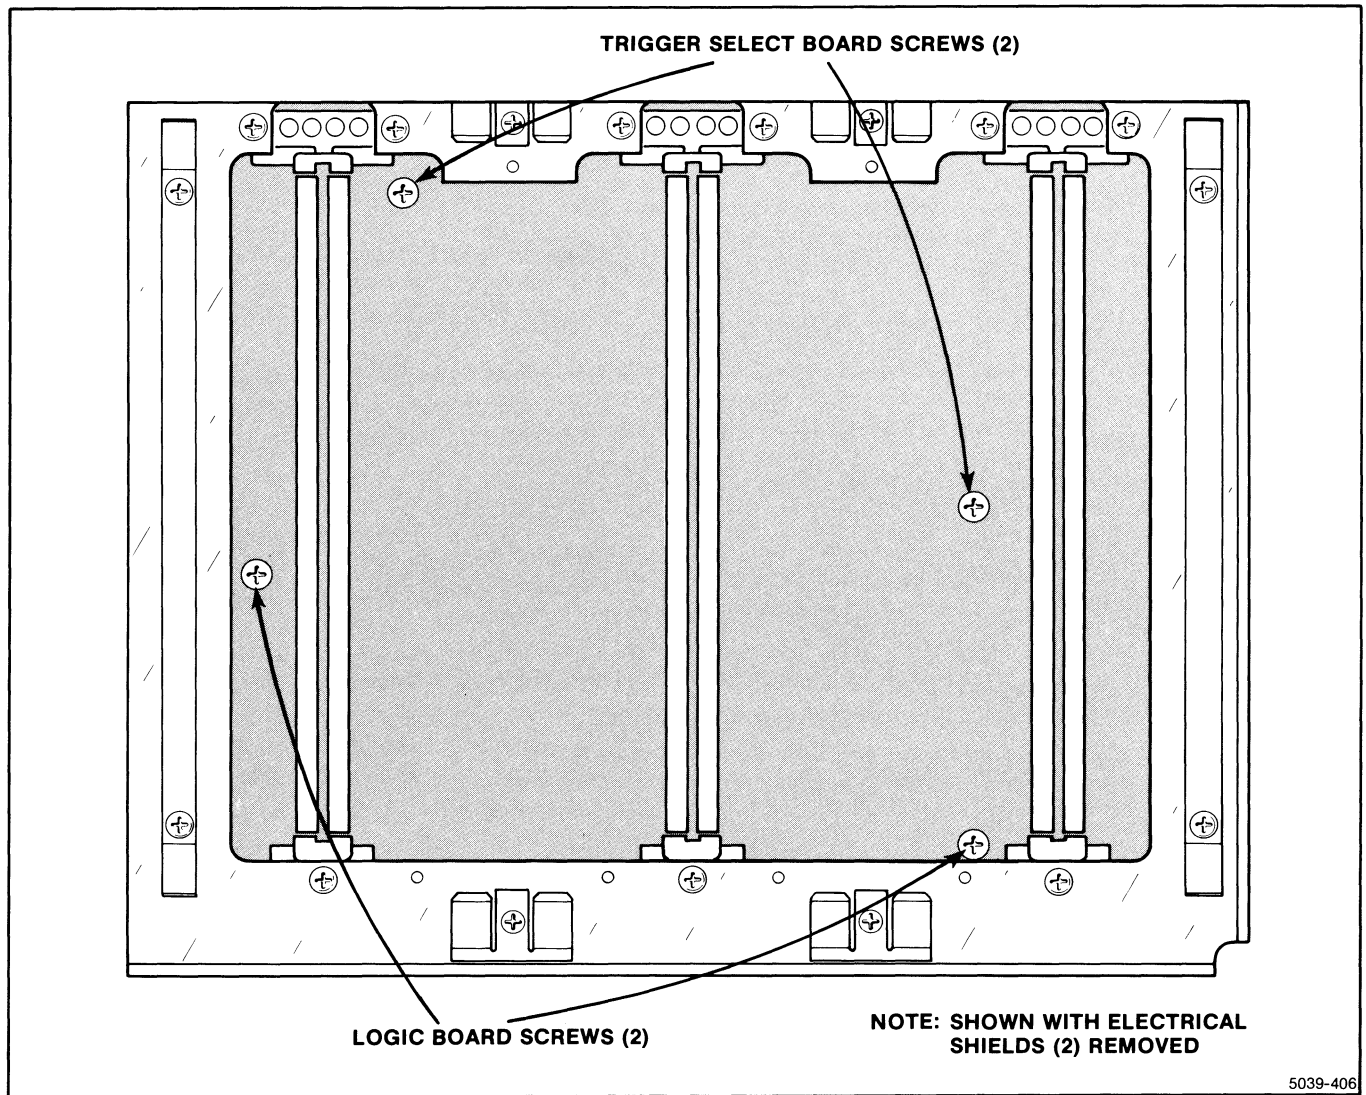

Figure 4-13. Screws that fasten the Plug-On Boards to the A6 Interface Board.
4. Working through the plug-in compartment, loosen the screws (two for each board) that fasten the board(s) to the A6 Interface Board. See Figure 4-13. (The board-retaining screws are captive screws; loosen them enough to disengage them from the circuit board, but do not remove them from their parent assembly.)